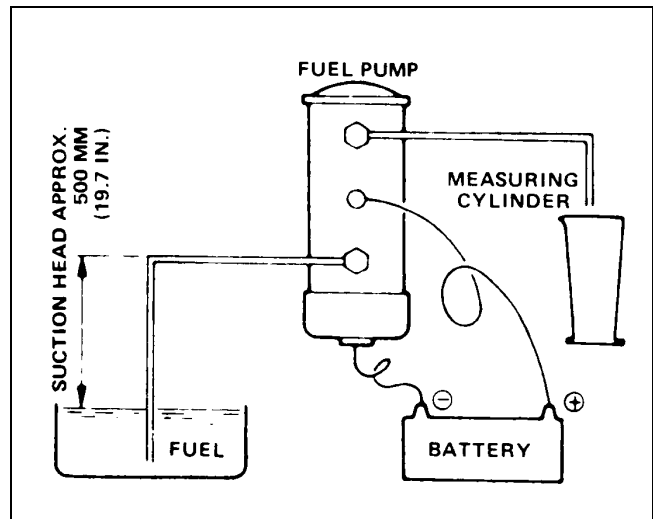

Figure 22
2. If no pumping action occurs when the ignition switch is turned on, connect a 12 volt DC battery directly to the pump (Fig. 22). If the pump now operates, check for an electrical failure of the pump circuit, eg. fuses, connections, wires, etc.
3. The delivery of the fuel pump may be checked by disconnecting the fuel lines from the water separator and fuel filter and routing them to a can of filtered diesel fuel and a drain pan (Fig. 22). Activate the pump and measure the amount of fuel pumped in during a 15 second time interval. The standard pump rate is approximately 8 ounces (225 cc) in 15 seconds.
2. Connect a 12 volt battery so the positive (+) battery terminal is connected to terminals A (hold) and B (pull) (Fig. 22). Connect the negative (-) battery terminal to solenoid terminal C (common). The plunger should retract to the dimension shown.